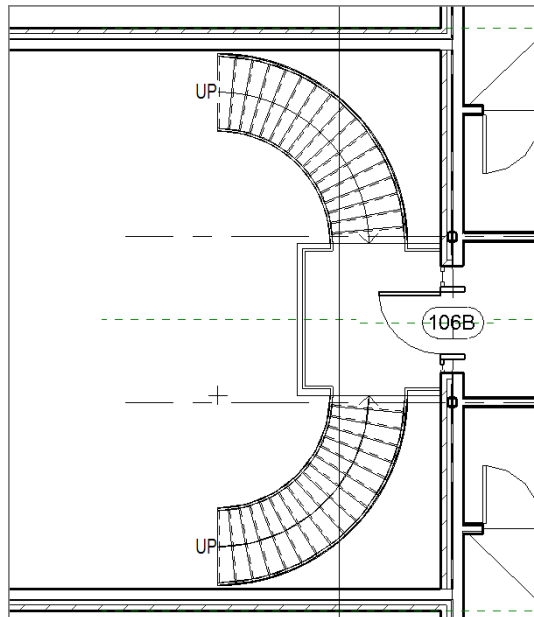

FIGURE 11.62: Tagging the door. Be sure you deselect Leader on the Options bar.
5. Pick the door shown in Figure 11.62. Your tag is added.